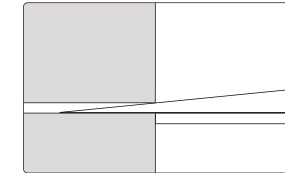

fig 5.
- Input the measure face into the gap of the workpiece to be measured, make the measuring surface and the workpiece surface completely coincided (fig 5.).